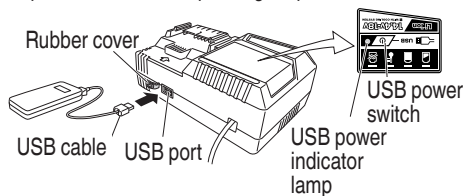

Fig. 13
- (2) Turn the USB power switch ON (Fig. 13)
- (3) Connect the USB cable. (Fig. 13)
- (4) When charging is completed
- Turn the USB power switch OFF and unplug the power cord from the electrical outlet. (Fig. 13)